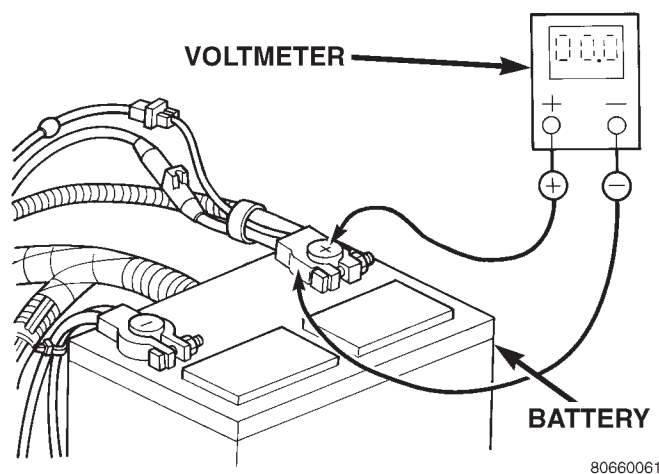

Fig. 5 Test Battery Positive Connection Resistance - Typical
(2) Connect the positive lead of the voltmeter to the battery positive terminal post. Connect the negative lead of the voltmeter to the battery positive cable clamp (Fig. 5). Rotate and hold the ignition switch in the Start position. Observe the voltmeter. If voltage is detected, correct the poor contact between the cable clamp and the terminal post.
(3) Connect the voltmeter to measure between the battery positive terminal post and the starter sole-